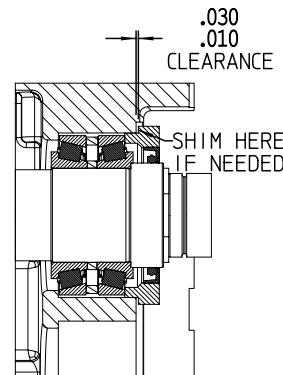

FIGURE 18
8. When back face clearance has been established in accordance with the value shown in **Table 7**, remove body and secure shaft assemblies in the gear box with bearing retainers. Do not apply sealant at this time. Retainers must seat firmly against the bearing and leave .050-.060" clearance between retainer and gear box. Use shims if needed to obtain this clearance. Refer to **Figure 18**.